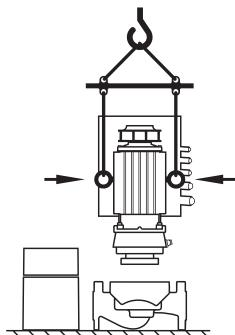

Fig. 9: Transporting the motor
- If necessary, e.g. in case of repairs, the transport eyes can be moved from the motor flange to the motor housing (see e.g. Fig. 9). Before installing the transport eyes at the motor housing, unscrew the spacers from the openings for the transport eyes (Fig. 7, Item 20b) (see chapter 10.2.1 "Replacing the mechanical seal" on page 111).
- If the transport eyes have been moved from the motor flange and installed at the motor housing, then they are only approved for carrying or transporting the motor impeller unit (Fig. 9) and not for transport of the whole pump and not for separation of the motor impeller unit from the pump housing.